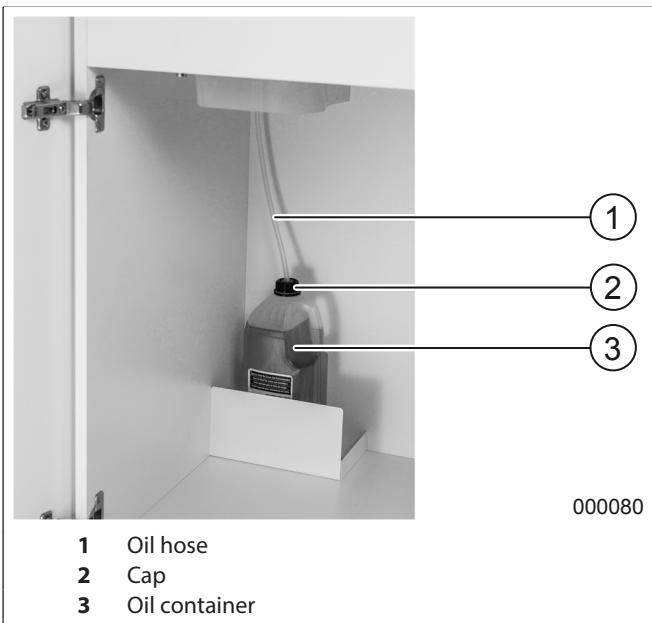

fig.6 Oil container
If the control display ⚡ (fig. 2/7) flashes, this usually means that the oil container (fig. 6/3) is empty and must be replaced with a full container. The motor switches off.
2. Release the screw cap (fig.6/2), take the oil hose with the screw cap out of the empty container and remove the container.
3. Suspend the full container and remove the screw cap. Feed the oil hose (fig.6/1) into the container and close the container again with the screw cap that is connected to the oil hose.